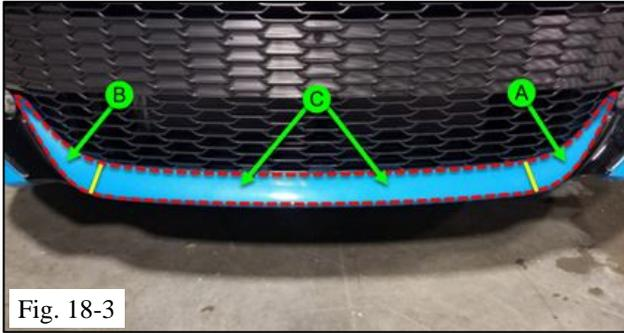

Fig. 18-1
- (a) Align the edges within the proper tolerance and secure with the squeegee. Use alcohol to ensure placement is kept (Fig. 18-1).